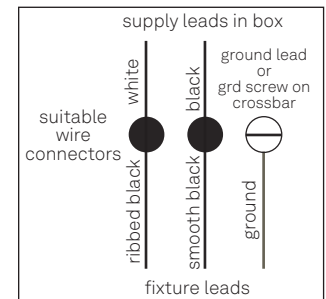

Figure 2. Wiring Diagram
- 4 Carefully supporting the fixture, connect the exposed leads of the fixture to the leads in the electrical box according to the wiring diagram (Figure 2) using the wire and wire connectors provided.